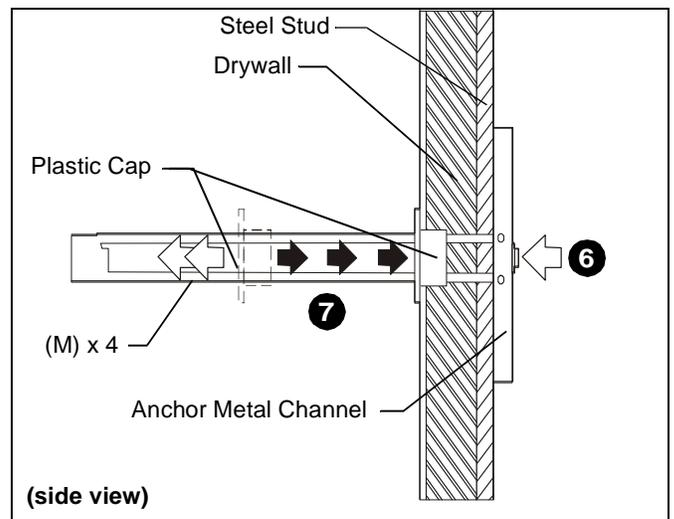

Figure 7
6. Holding plastic straps on anchor (M), pull anchor away from wall until channel rests flush behind wall making sure anchor channel is positioned vertically on stud. (See Figure 7)
7. Slide plastic cap on anchor (M) towards wall until flange of cap is flush with wall. (See Figure 7)